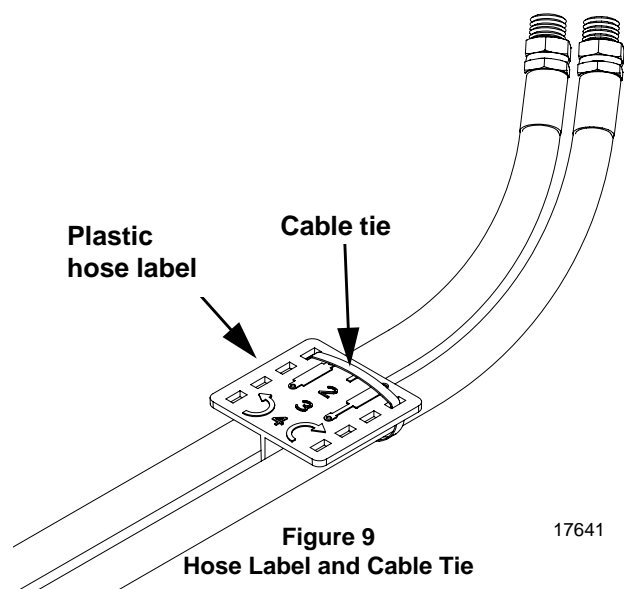

Figure 9
4. Using orange cable ties, secure a plastic hose holder to each pair of hydraulic hoses near tractor outlets. See Figure 9.
6. Using orange cable tie, secure plastic hose label to hydraulic hoses near tractor outlets. See Figure 9 on the previous page.